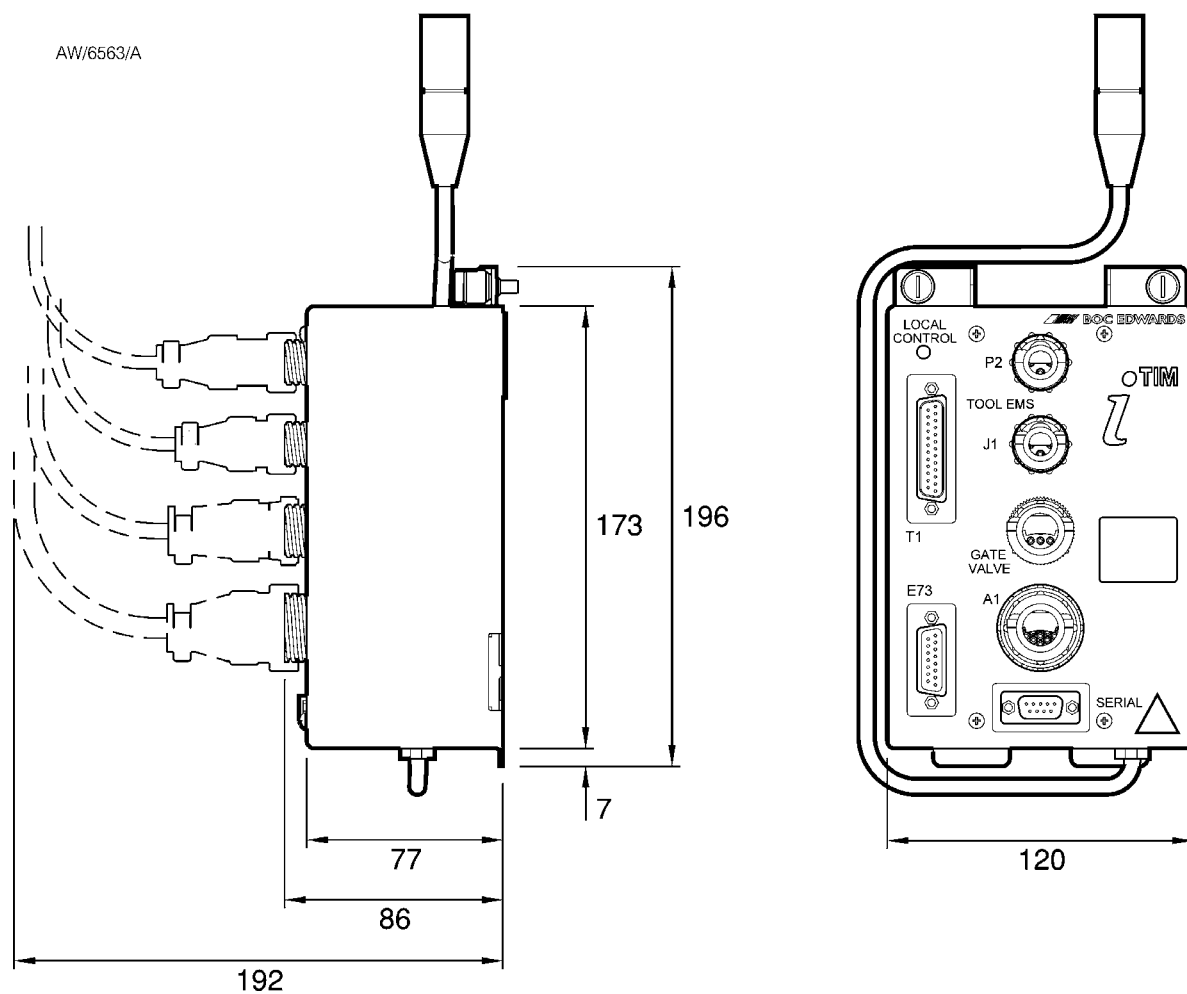

Figure 3 - Dimensions (mm)
Dimensions	Refer to Figure 3 and 4
2. Refer to Figure 3. Fit the pumping system mounting tabs into the fixing slots on the rear panel of the dry pumping system.